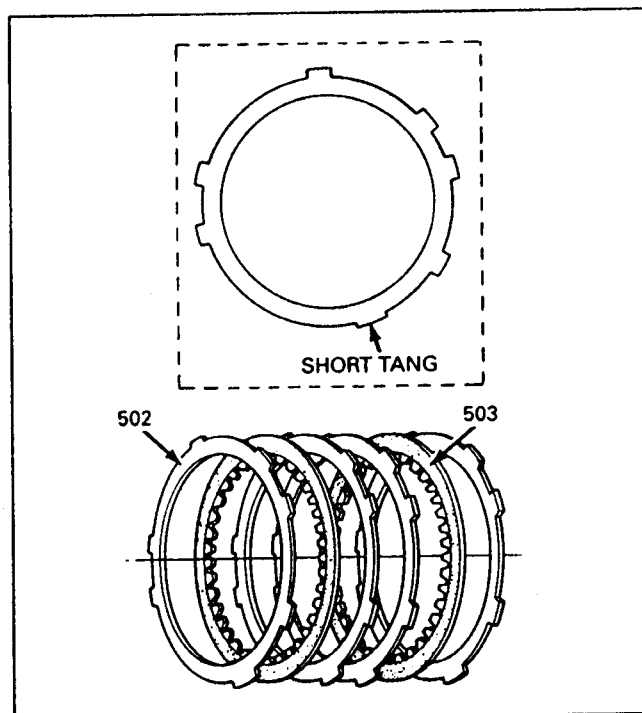

Figure 105
30. Install the fourth clutch plates exactly as shown in Figure 105, over the overrun clutch housing.
31. Install the plates as follows: Steel, Lined, Steel, Steel, Lined, Steel, as shown in Figure 105.